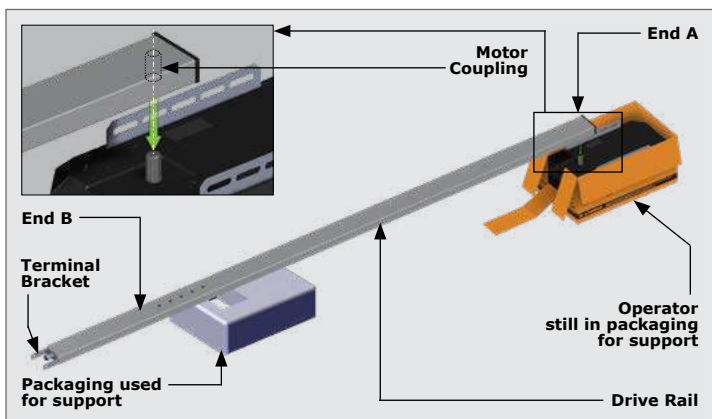

FIGURE 7
1. Orientate the Drive Rail as shown in Figure 7, and fit 'End A' over the motor coupling found ontop of the **SDO5 SMART+** Head Unit.